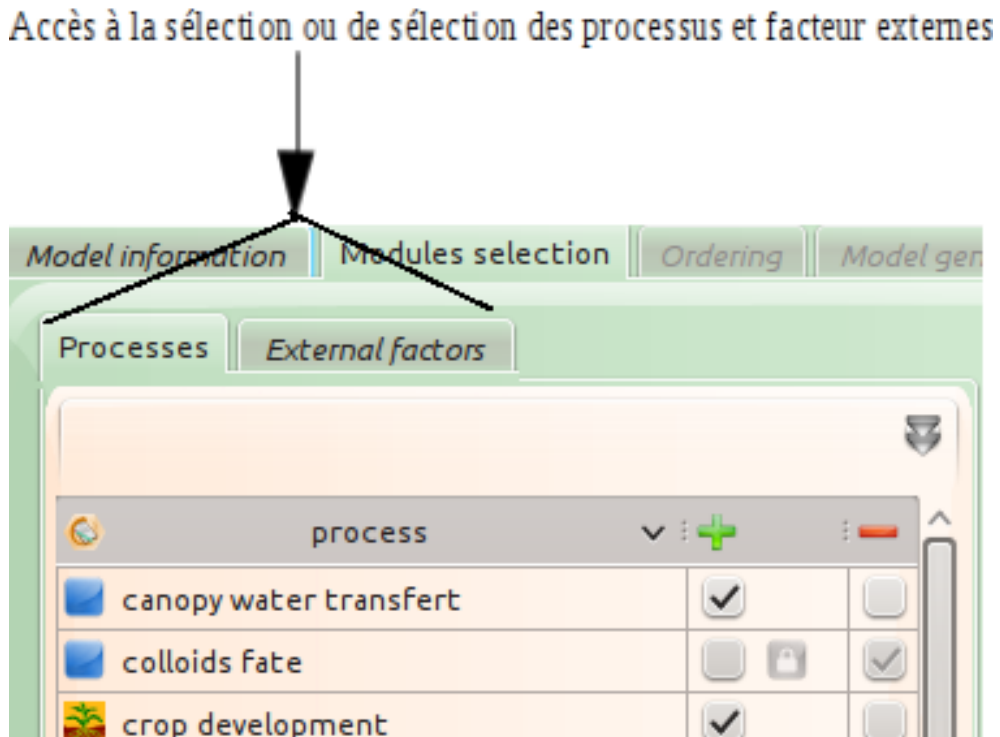

Figure 20: List of processes and external factors in the “Modules selection” tab
1. Text part In the “Modules selection” tab, the list of processes and external factors (listed in alphabetical order) is accessible for their selection or deselection in the model being created or modified (see figure 20).